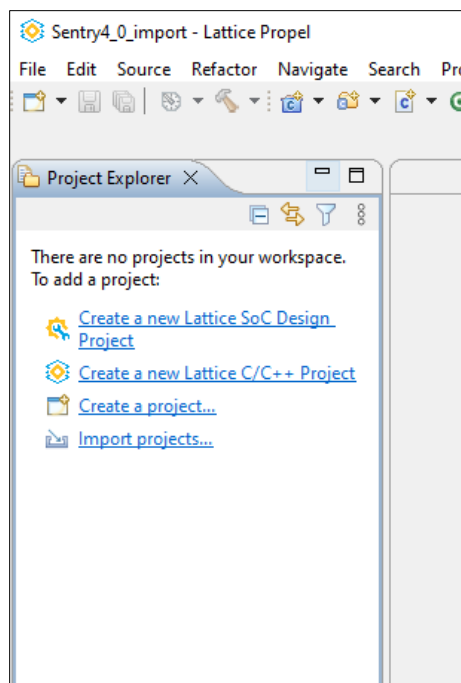

Figure 5.3. Import Projects
3. In the **Project Explorer** view, click **Import projects**, or choose **File > Import Projects** from the menu (Figure 5.3).
3. In the Project Explorer view, click **Import projects**, or choose **File > Import Projects** from the menu (Figure 5.3).